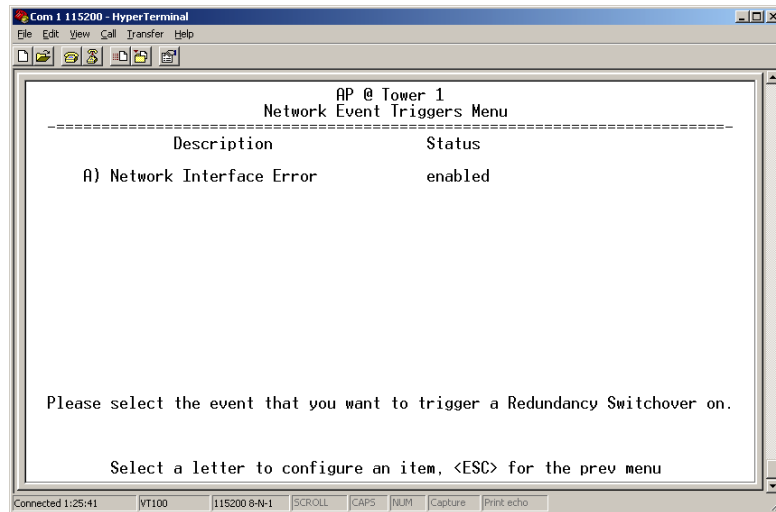

Figure 3-34. Network Events Triggers Menu
- **Network Event Triggers**—This selection brings up a submenu (Figure 3-34) where you can set/view the trigger status for Network Events.